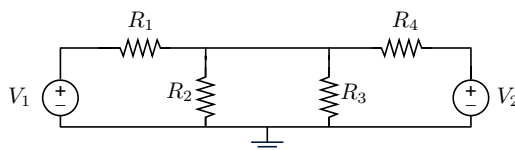

Figure 1: Circuit for Question A.3.a).
A.3.a) Consider the network in Fig. 1, where  $R_1 = R_2 = R_3 = R_4 = 10\Omega$ ,  $V_1 = 5V$  and  $V_2 = 2V$ . Determine the current passing through  $R_2$  (magnitude and direction). (4 pt)